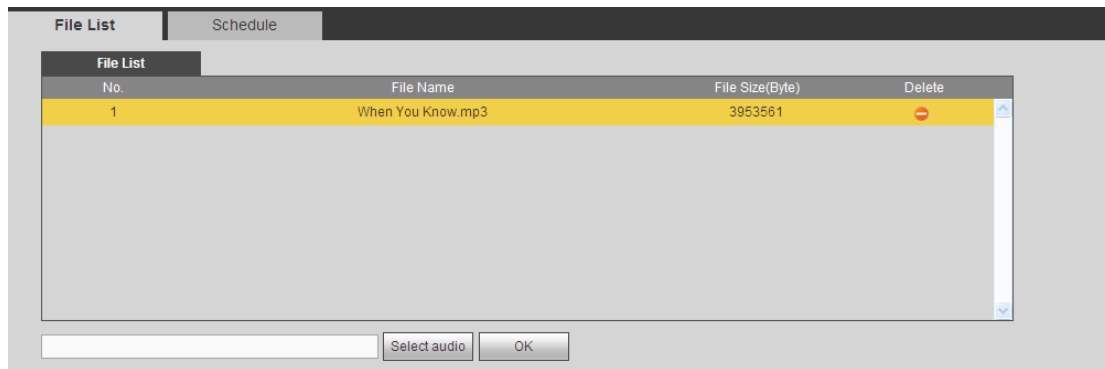

Figure 5-149
Enter File list interface. See Figure 5-149.
Step 3 Click Open button. Device goes back to Figure 5-149. Click Save button.